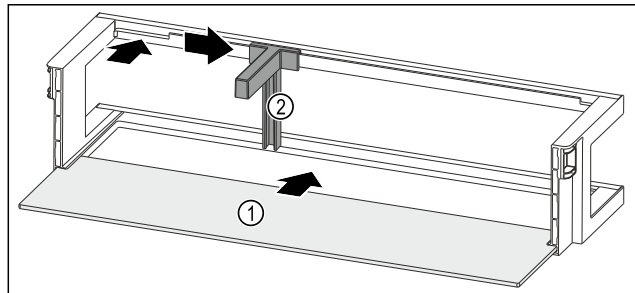

Fig. 252 Door rack with shelf
- ▶ Push the shelf Fig. 252 (1) into the side recesses.
- ▶ Insert the bottle holder Fig. 252 (2) in the recess.
- ▶ Push the bottle holder Fig. 252 (2) to the desired position to the side.